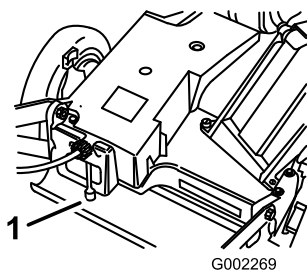
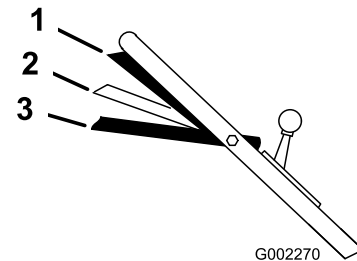

Figure 14
Figure 15
2. Lift the blade control bar to the Run/Shift position or Run/Drive position to start the blades (Figure 15).
The mower has three ground speeds. 1 is slow, 2 is medium, and 3 is fast. The ground speed control is located at the rear of the belt cover (Figure 14).
1. Move the ground speed control to the Neutral position (Figure 14).
3. Squeeze the blade control bar to the Run/Shift position (Figure 15) and move the ground speed control to the desired speed setting (Figure 14).
4. Squeeze the blade control bar against the handle to the Run/Drive position (Figure 15).